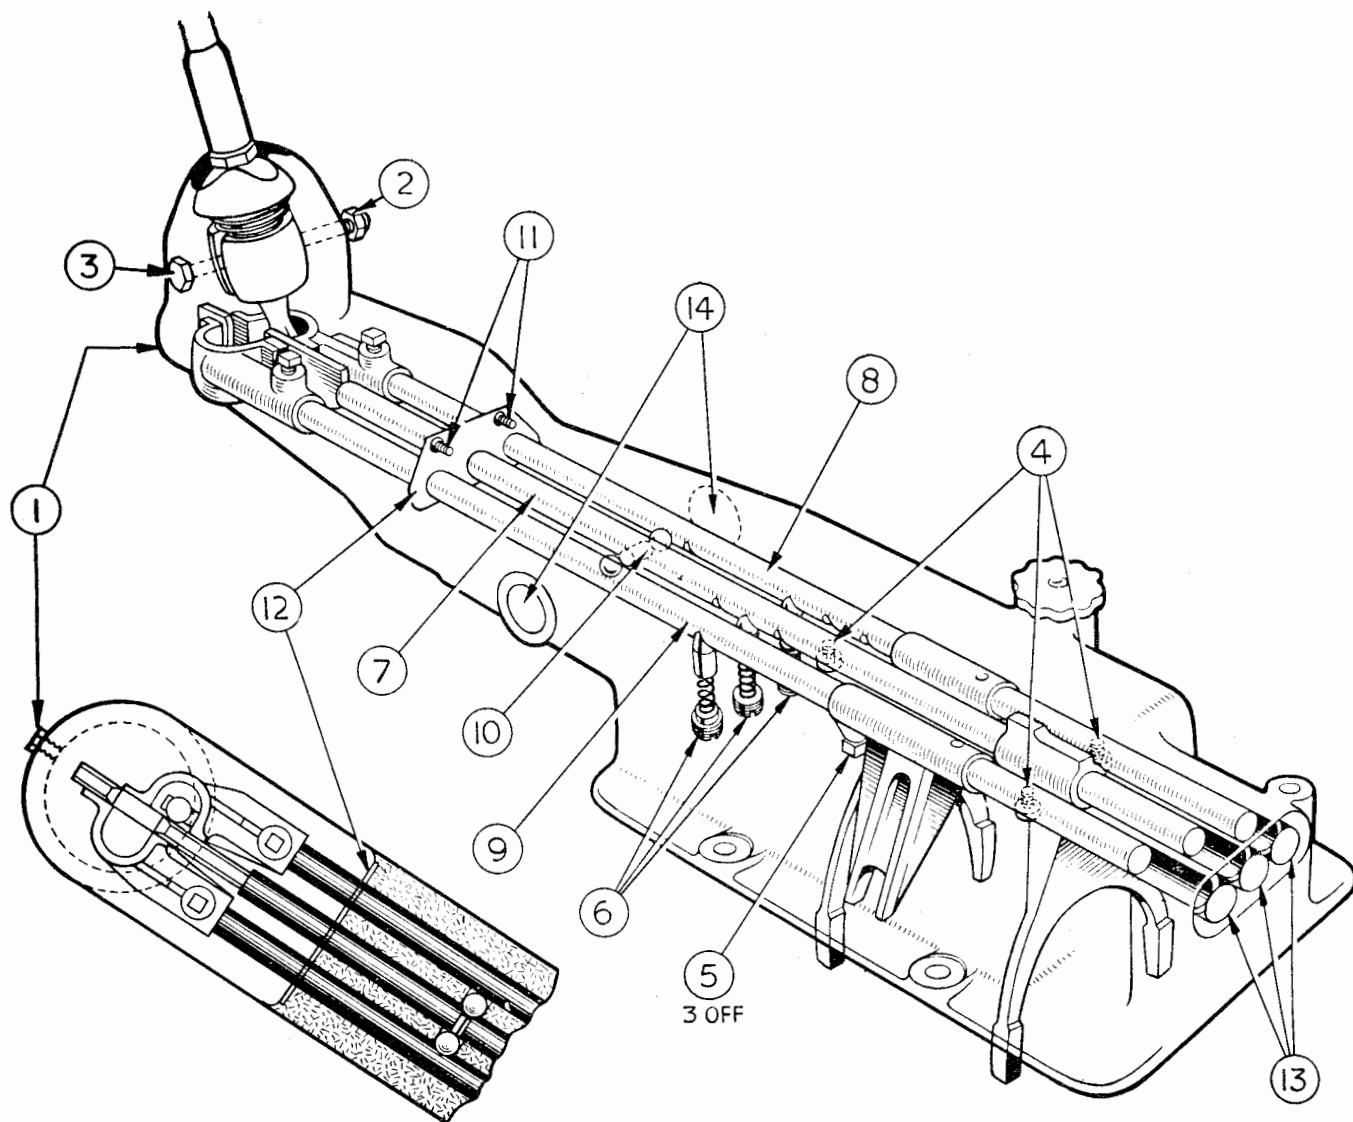

Fig. 40
### Top Cover Assembly—Fig. 40—Dis-mantling. Proceed as follows :—
- (k) Remove the two  $\frac{1}{4}$ " UNF setscrews (11) from the oil sealing ring cover plate (12), enabling the plate and three rubber sealing rings to be removed.
**Top Cover Assembly—Fig. 40—To Assemble.** Assemble the new selector forks into the new top cover by reversing the dismantling procedure, observing the following :—